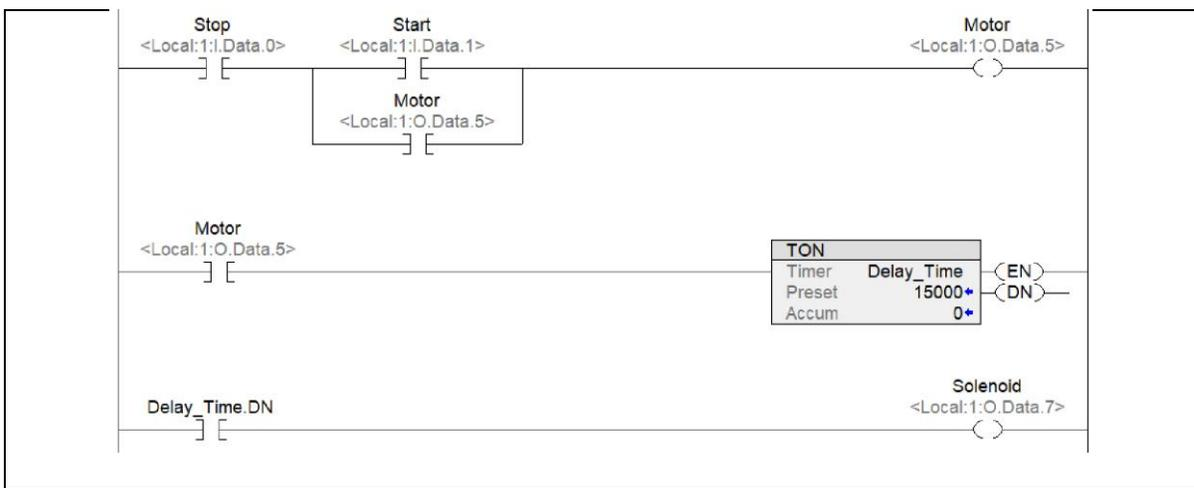

Figure 7. Ladder Routine for Lab5_3_Project2.ACD.
7. Open the Lab5_3_Project2.L5K from the Documents folder, by doing a File, Open in Logix Designer. The user will be prompted to do an import of the Lab5_3_Project2.L5K to Lab5_3_Project2.ACD. The main routine should have 3 rungs as shown in Figure 7.
9. Explain how the Motor and Solenoid outputs respond, once the Start pushbutton is actuated in the program shown in Figure 7. _____